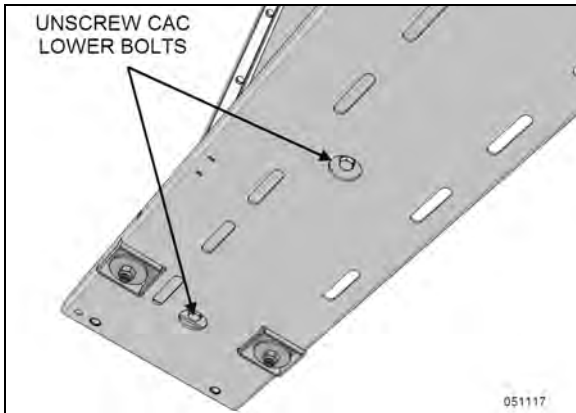

FIGURE 50: LOWER CAC INSULATED BOLTS
- From under the vehicle, unscrew the CAC from the lower support (two hex bolts with plastic insulating bushings Figure 50).